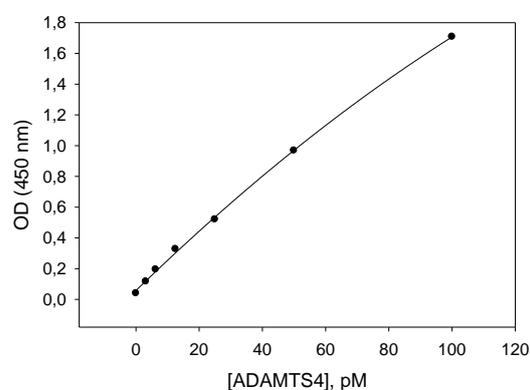
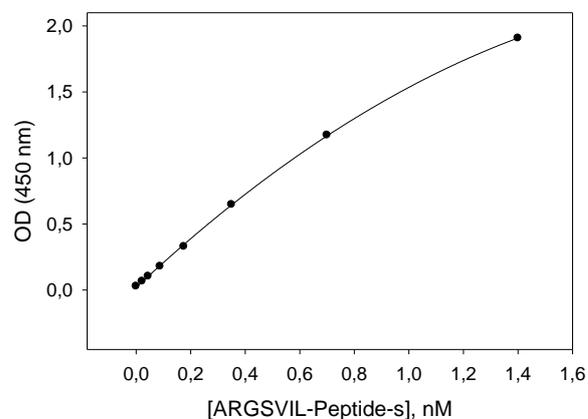

Fig.2: Typical ADAMTS4 standard curve
Fig. 3: Typical standard curve for ARGSVIL-peptide-s.
2) Plot the mean absorbance against the concentration of ADAMTS4 (pM). The curve shape should be similar to fig. 2. The concentration of active test sample aggrecanase equivalent to the activity of standard ADAMTS4 in proteolytic reactions can be read directly from the graph or calculated by regression analysis.
2) Plot the mean absorbance against the concentration of ARGSVIL-peptide-s standard. The curve shape should be similar to Fig. 3. The concentrations of ARGSVIL-peptide-s corresponding to absorbencies of aggrecanase reactions (Table 1, Fig. 2) can be read directly from the graph or can be calculated using appropriate computer software.